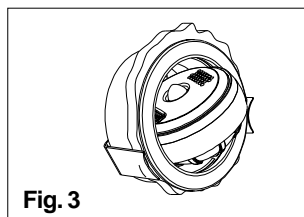

Fig. 3
- Lock swivel ring to tweeter housing and make connections, then insert tweeter (terminals first) into swivel-flush cup (Fig. 3).